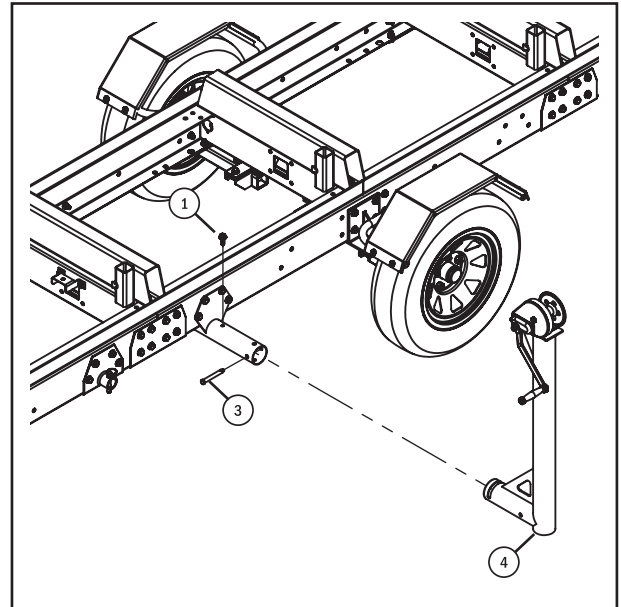

Fig. 2
Step 6: Install the Vertical Mounting Tube to the Horizontal Mounting Tube. Install the Vertical Mounting Tube (4), as shown in Fig. 2 using one M10 x 30 Flange Head Bolt (1) and the 12 x 100 Clevis Pin (3).